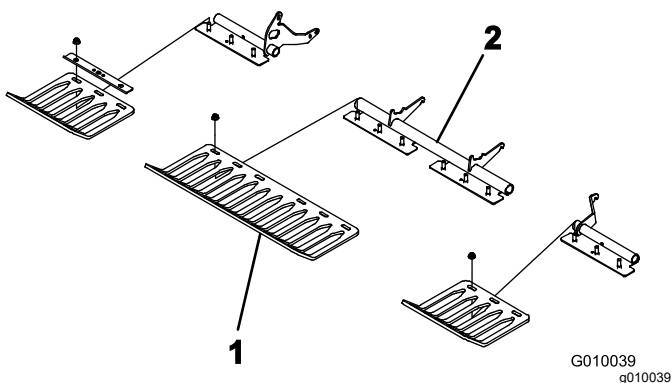

**Figure 22**
3. Mount a tine holder to each tine arm (Figure 22) with 3 bolts (1/2 x 1-1/4 inches). Torque the bolts to 101.6 N·m (75 ft-lb).